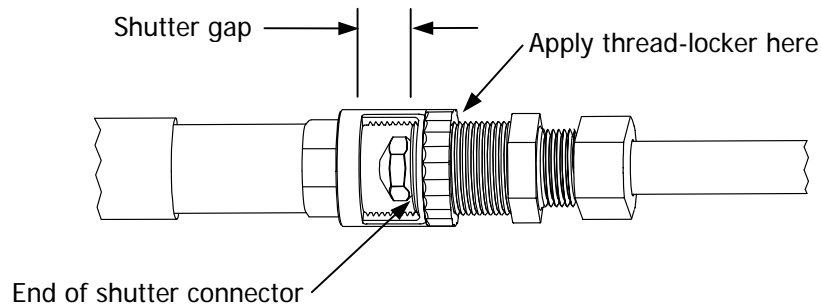

Figure 9-2 Air Shutter Reassembly and Gap Adjustment
- 9-4** Measure the gap between the end of the shutter connector and the opposite end of the shutter opening with the pocket rule (see Figure 9-2).
- 9-7** Secure the shutter with thread-locker (see Figure 9-2).